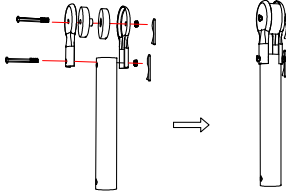

Fig. 2
Step 2. Assemble the remaining parts of the pulley assembly and the downrod using the clevis pins and "R" pins. (Fig. 2)